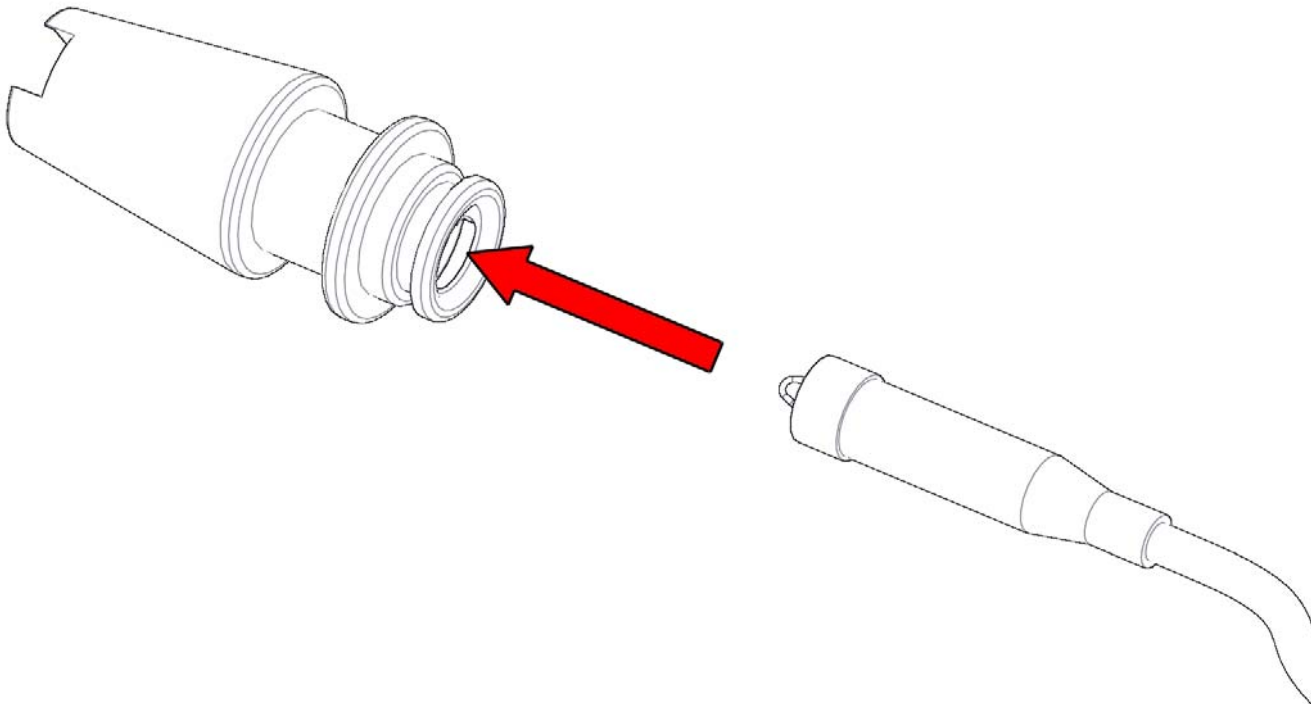
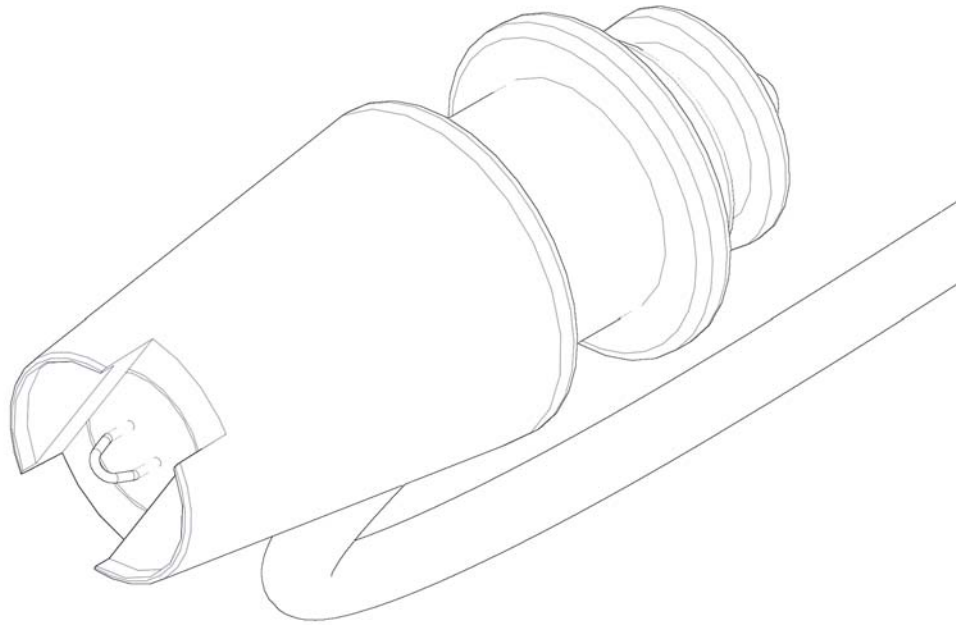

Figure 2-12 Feeding the burn wire assembly into the metal release housing.
Figure 2-13 Release housing.
1. Align the burn-wire bushing assembly with the metal release housing. Then feed the burn-wire bushing assembly into the metal release housing (Figure 2-12 and Figure 2-13).